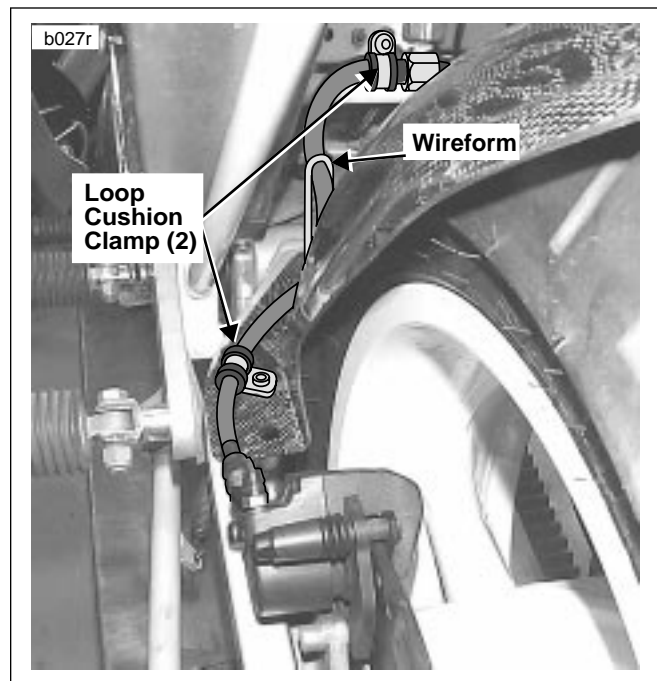

Figure 18. 1995-96 S2/S2T Brake Line Routing
41. See Figure 18. Place loop cushion clamp over brake line.
42. See Figure 18. Place loop cushion clamp into mounting position and install **new** shoulder bolt through loop cushion clamp to rear left hole of rear inner fender. Tighten bolt to 6-8 ft-lbs (8-11 Nm).
43. See Figure 18. After rear brake line and rear inner fender are installed, check for proper brake line routing and clamp attachment points. Brake line routing and attachment points should be as in shown in Figure 18.